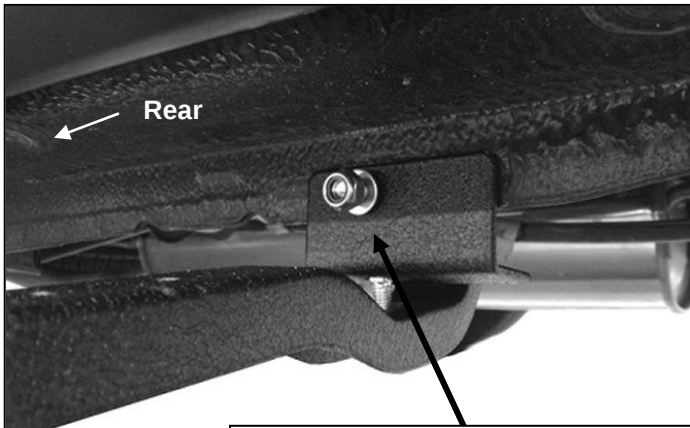

Fig 21
17. Place (2) Sealing Washers over the hole in the pinch weld. Secure the Rear Bracket and Support Bracket assembly to the bottom of the Mounting Plate with (2) 8mm x 22mm Flat Washers and (2) 8mm Nylon Lock Nuts, **(Figures 19B & 20)**. Bolt the Support Bracket to the outside of the pinch weld with (1) 8mm x 25mm Hex Bolt, (2) 8mm x 16mm Flat Washers and (1) 8mm Nylon Lock Nut, **(Figure 21)**. Snug but do not fully tighten hardware at this time. .